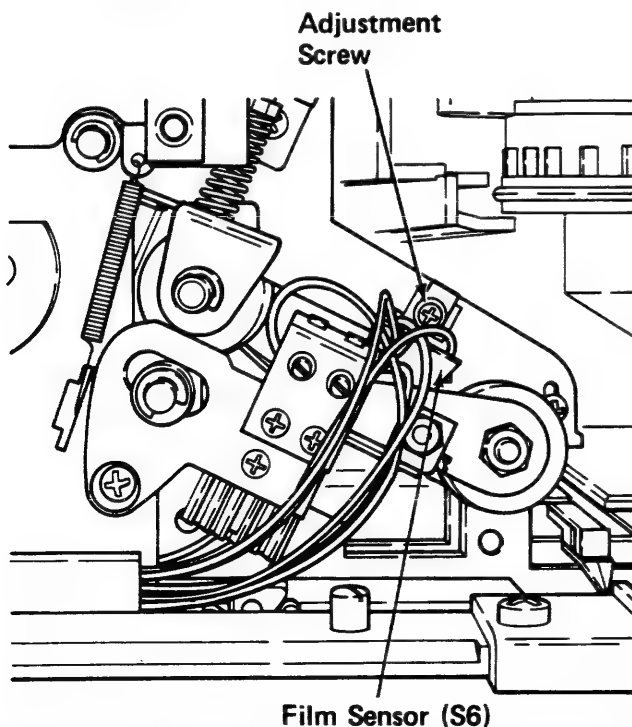

Figure 3-3A
1. Loosen the Adjustment Screw and Nut and reposition the Film Sensor (S6) as required (Figure 3-3A).